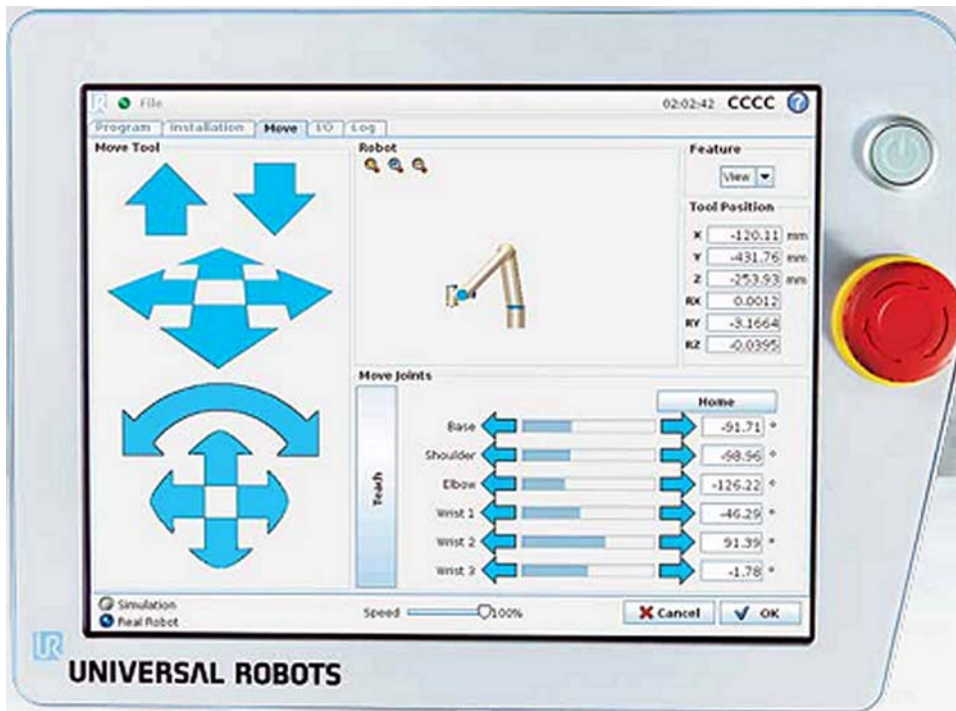

Figure 2
3. Plug memory stick into USB port on Universal Controller teach pendant (see **Figure 2**).